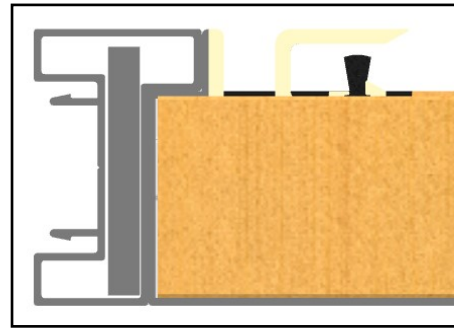

Figure 1
2. With the reinforcement inside the stile extension, place on the inactive panel with the 6 degree side on the sill. (Fig. 1)